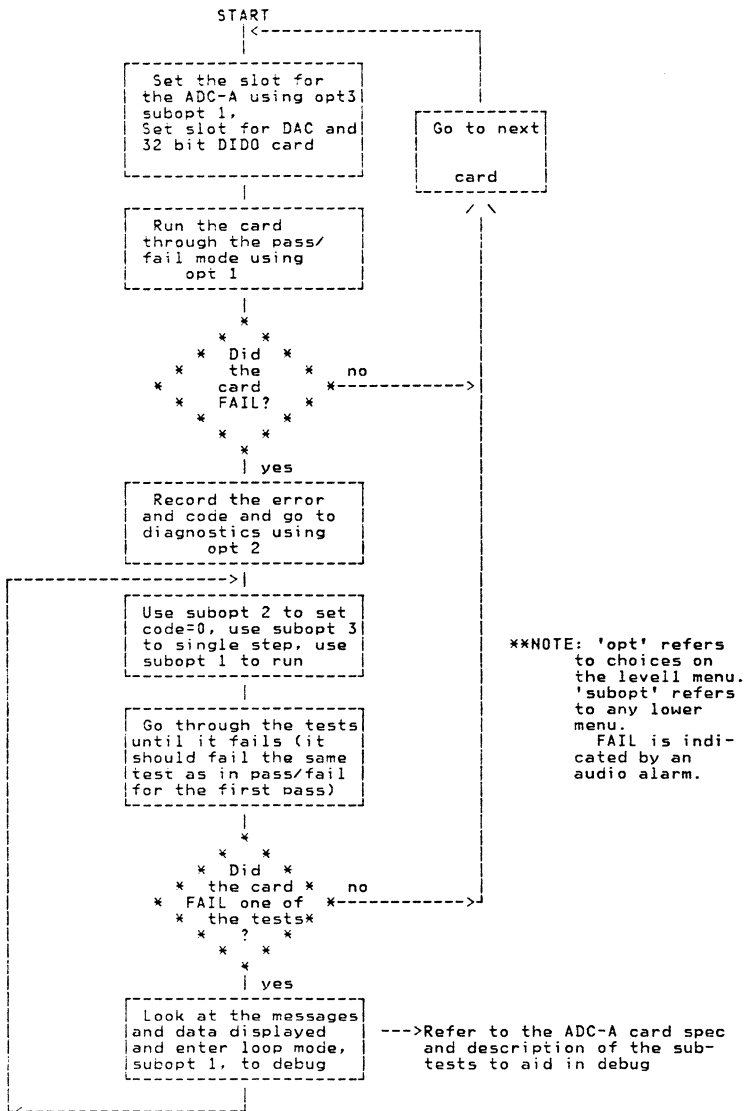

Figure 16. ADC-A Test Procedure
- Follow the flowchart in Figure 16 on page 26.